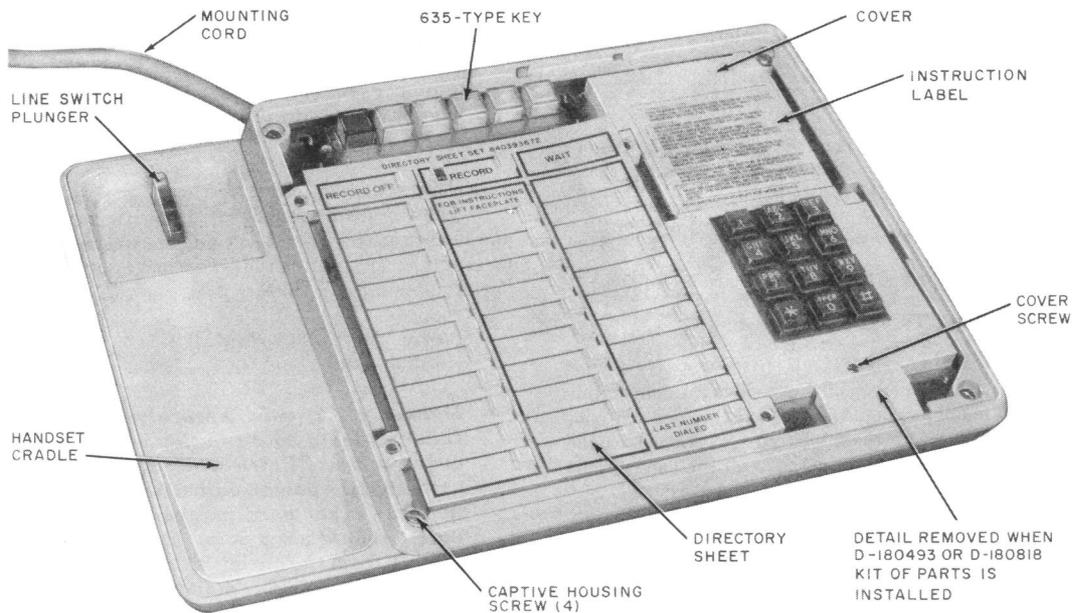

Fig. 2—2872A2M Telephone Set, Faceplate and Handset Removed
2.10 Operating features (Fig. 2) are as follows.
- Line key (635BT5), 6-button key. Hold with five line pickup buttons which are convertible to nonlocking. An additional momentary contact (logic reset switch) is attached to the Hold side of the key to reset the logic circuit anytime a key button is depressed.
- 3.05** The directory sheets (Fig. 2) fit over the buttons of the memory and are held in place by the faceplate. Additional sheets are available in the directory sheet set, 840393672.
- (5) Make connections per Table C, E, or F.
- (6) Break off the detail at the bottom of the cover (Fig. 2) and trim edge as required.
- (7) Verify correct operation of the option.
- (8) Reassemble set.